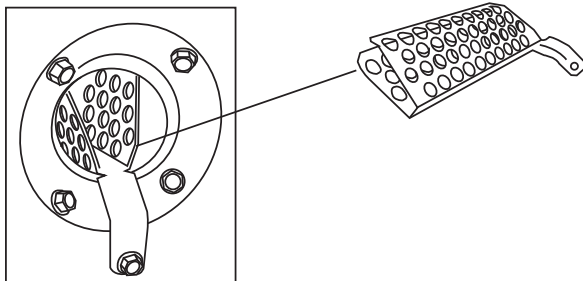

Fig. 38 - NOx Device
1. Remove the screw underneath the heat exchanger inlet that secures the NOx device in the heat exchanger. See Fig. 38.